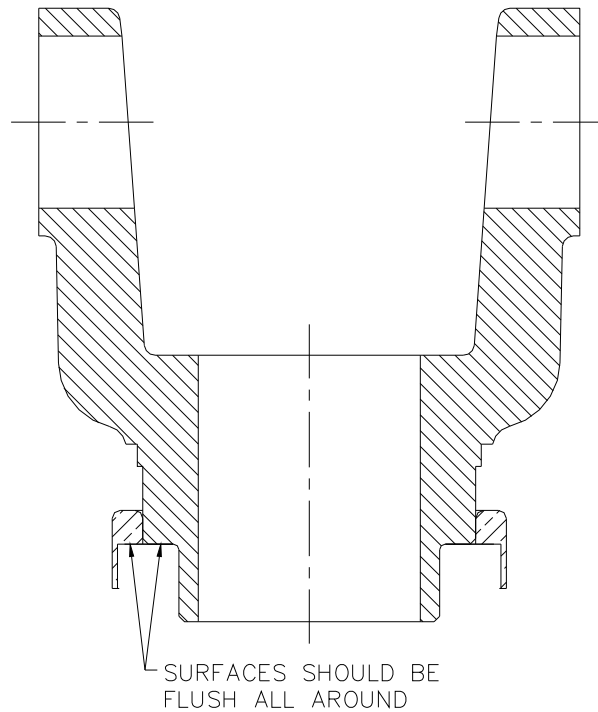

Fig 2b
- Inspect flinger/yoke assembly to make sure faces are flush as shown in Fig 2b.